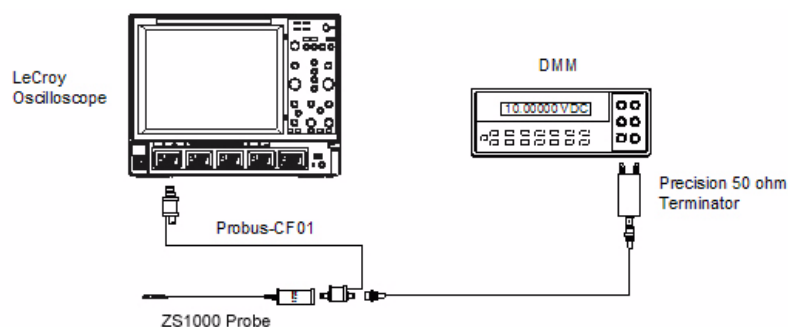

Figure 7-1. Output Zero Voltage Test Setup
2. Connect the banana plugs of the Precision terminator to the input of the DMM. Make sure that the plug corresponding to the BNC shield (marked "Ground") is connected to the **LO** or **COMMON** input of the DMM. Refer to Figure 7-1 for setup information.